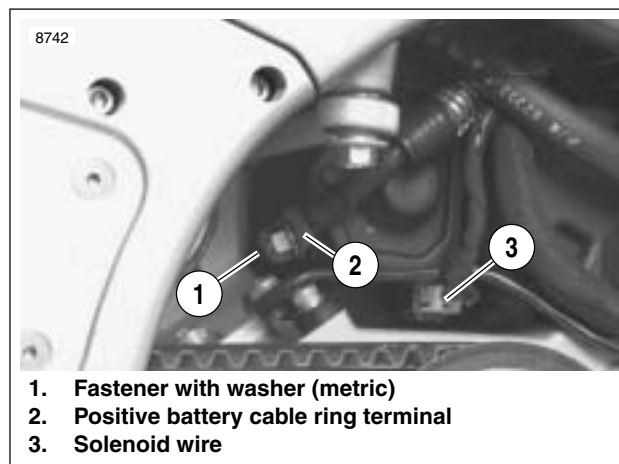

Figure 5-25. Starter Wires (Protective Boot Not Shown)
2. See Figure 5-25. Connect wiring to starter.
- a. Connect solenoid wire (3).
- b. Attach positive battery cable ring terminal (2) to stud with fastener and washer.
- c. Install nut and washer (1) (metric). Tighten nut to 60-85 **in-lbs** (7-10 Nm).